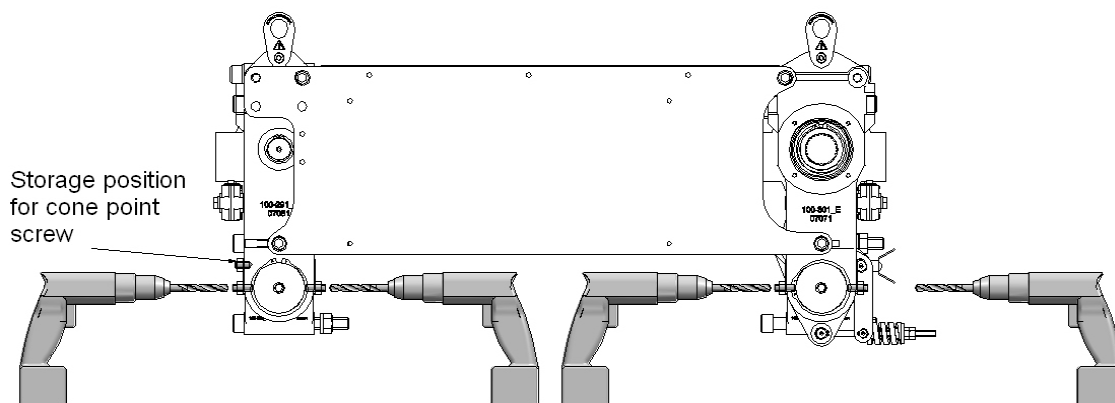

Figure 17 – Setting the Low Headroom Legs
- Using a 10mm diameter drill, drill a full cone of 10mm diameter into both legs at four positions (see Figure 17).